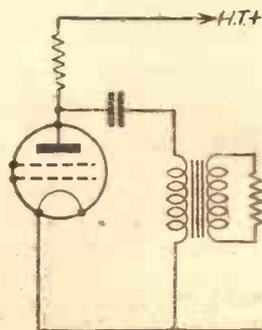

Fig. 3 (left). The S.G. valve may be parallel-fed as shown.
L.F. transformer arrangement. Unfortunately the maximum effects are not obtainable without increasing the size of the H.T. battery and space does not permit of this. However, for those who wish to experiment in this direction a resistance from 50,000 to 150,000 ohms may be used, with a small tubular condenser of about .01 mfd. as the coupling component. The new circuit arrangement is seen in Fig. 3 and although the voltage drop through the resistance greatly lowers the voltage on the valve anode, the effect of the change is fairly well marked. If a larger case can be adopted, and the question of portability does not arise, it is possible to use a much larger H.T. battery and to obtain greatly improved results from this particular stage, leaving the voltage on the output valve at the maximum of 40 recommended by the makers. It may be pointed out that the new valves are not screened as in the case